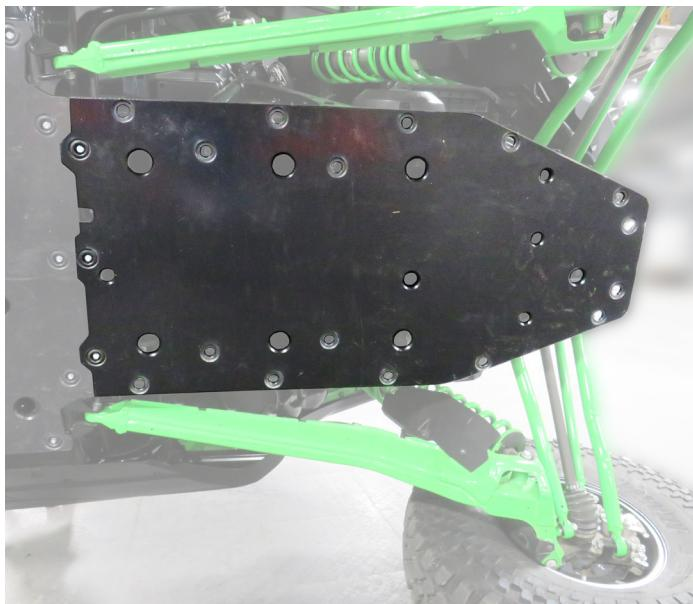

Fig.10a
10. And now **Install** the last **Plate #5**. You will install Three (3) **M6x30 Hex Bolts** and **Bowl Washers** on this plate at this time. Leave these a little loose also until all drilling and last screws and Bowl washers are installed. See **Fig.10a-b**.